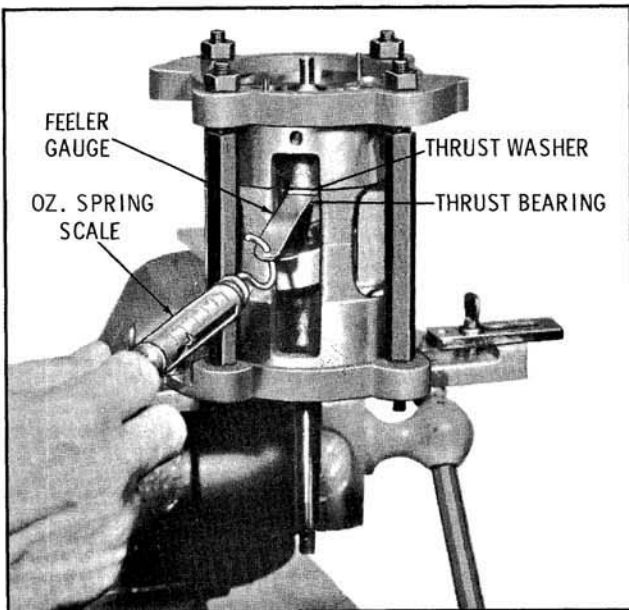

Fig. 14-131 Checking Drive Shaft End Play Clearance
13. To determine the clearance between the rear thrust bearing and the upper or outer-rear thrust race use a combination of feeler gauge leaves, so that 4 to 8 oz. of force is required to pull gauge free. (Fig. 14-131)